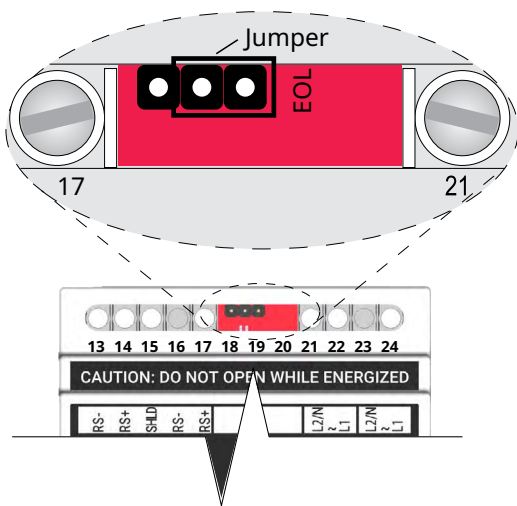

Figure 4a. End of Line Jumper for last TTSIM-3/4
- On the last TTSIM-3/4 in the circuit, place the jumper as shown in Figure 4a.